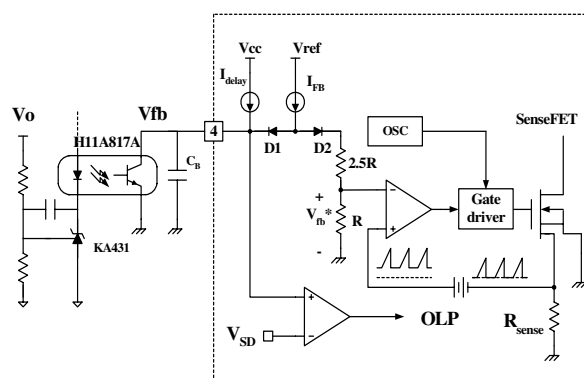

Figure 5. Pulse Width Modulation (PWM) Circuit
**2. Feedback Control :** FSES0765RG employs current mode control, as shown in figure 5. An opto-coupler (such as the H11A817A) and shunt regulator (such as the KA431) are typically used to implement the feedback network. Comparing the feedback voltage with the voltage across the Rsense resistor plus an offset voltage makes it possible to control the switching duty cycle. When the reference pin voltage of the KA431 exceeds the internal reference voltage of 2.5V, the H11A817A LED current increases, thus pulling down the feedback voltage and reducing the duty cycle. This event typically happens when the input voltage is increased or the output load is decreased.
**2.1 Pulse-by-pulse Current Limit:** Because current mode control is employed, the peak current through the Sense FET is limited by the inverting input of the PWM comparator ( $V_{fb}^*$ ) as shown in figure 5. Assuming that the 0.9mA current source flows only through the internal resistor ( $2.5R + R = 2.8 k\Omega$ ), the cathode voltage of diode D2 is about 2.5V. Since diode D1 is blocked when the feedback voltage (Vfb) exceeds 2.5V, the maximum voltage of the cathode of D2 is clamped at this voltage, thus clamping  $V_{fb}^*$ . Therefore, the peak value of the SenseFET current is limited.